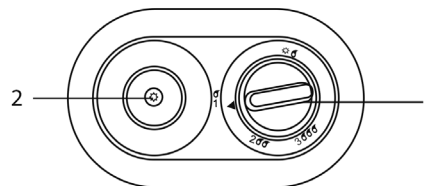

Fig. 2
### Control panel (fig. 2)
2. Press and slowly turn the gas control knob on the control panel to «1» position (Fig.2). Keep the gas control knob pressed for 20-30 seconds. At the same time, press the piezo-ignition button several times, until the pilot lights up. Every time you press the piezo-ignition button, you can hear a loud click and see a spark on the piezo-ignition electrode. Continue keeping the gas control knob pressed for 10-15 seconds after ignition of the pilot flame in order to activate the flame detector.